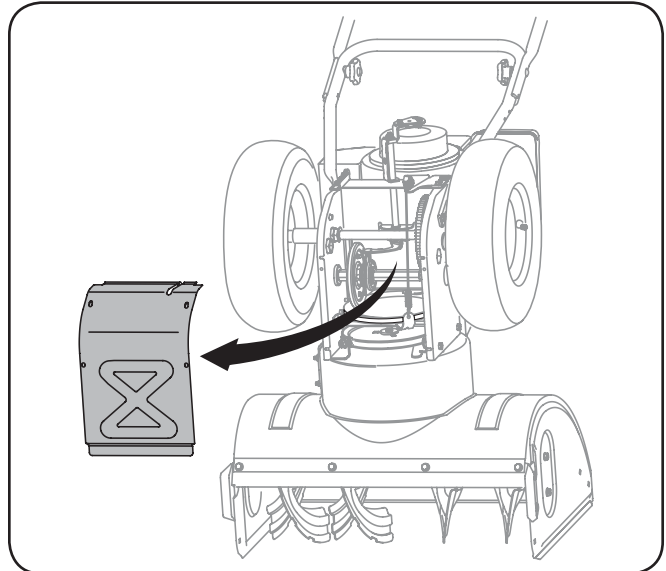

Fig. 7-3
3. Remove the frame cover from the underside of the snow thrower by removing the self-tapping screws which secure it. Refer to Fig 7-3.
5. Remove the frame cover from the underside of the snow thrower by removing the self-tapping screws which secure it. See Fig. 7-3.
5. Remove the frame cover from the underside of the snow thrower by removing the self-tapping screws which secure it. Refer to Fig. 7-3.